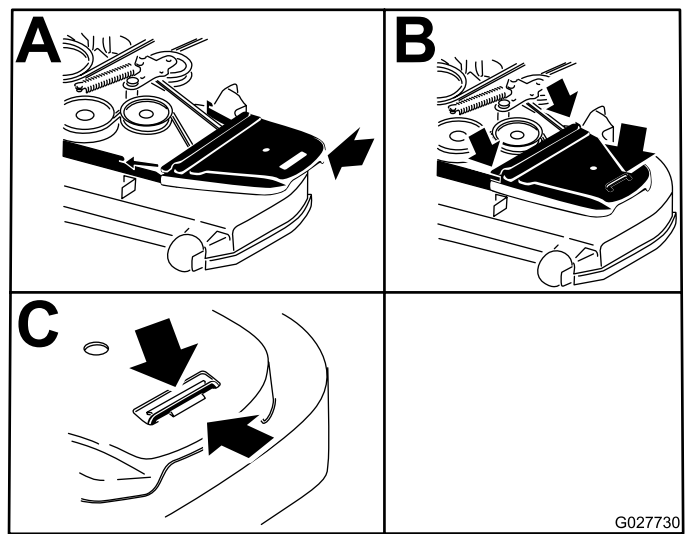

Figure 85
14. Install the belt covers (Figure 85).